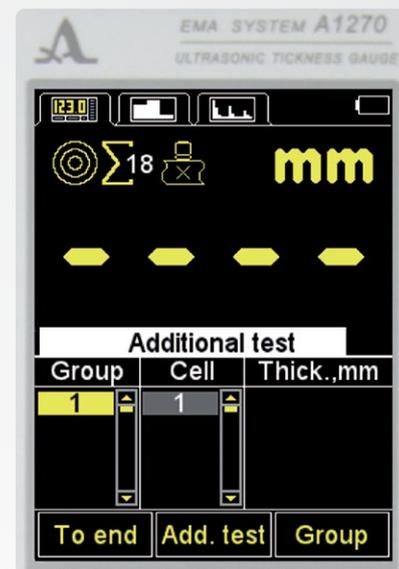

Figure 66
**Note:** to reset the current average value and to prevent the EMAT from overheating, please regularly perform an additional EMAT test in the air. To start an additional test please take the EMAT from the inspected object and press the F2 key (addit. test). The running line „Additional test“ will appear. The number of the current averages and the result will be reset. (Figure 66). When the ASD is on, the color indication of the selected actuation condition will be on. If the acoustic indication is on in the menu of the Monitor, the changes of the readings will be accompanied by quick signals.